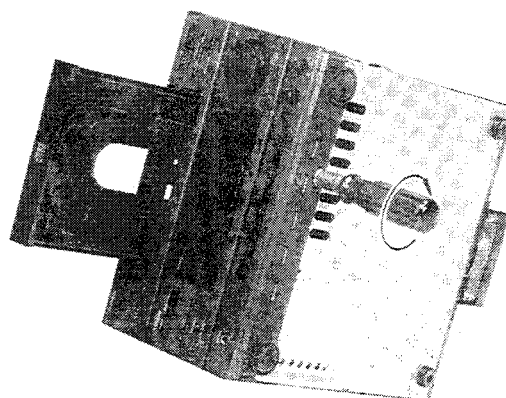

Fig. 2
4. If the power can not be turned on due to malfunction, etc., turn the plastic screw located on the bottom plate under the front panel in the direction of the arrow (clockwise) to move the tray out , as shown in the Fig.2.